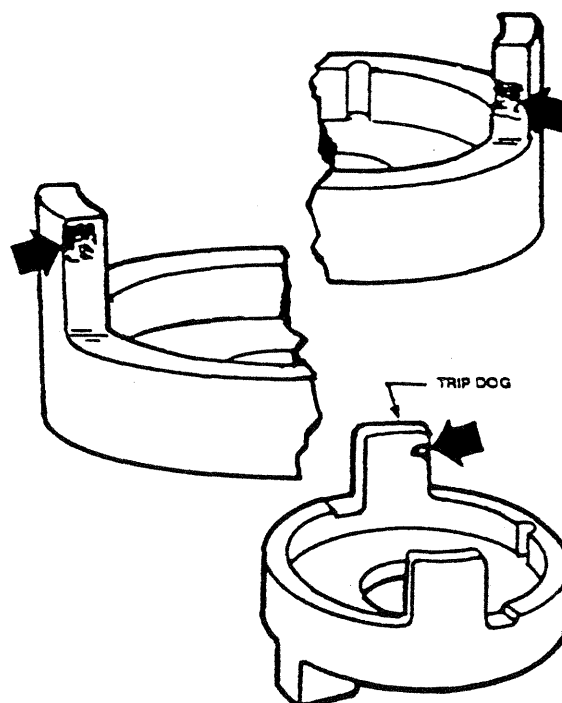

Figure 717. Points of Coupling Body Wear
(4) Inspect trip dogs of coupling body (9) for grooves worn by tail of flyweight and wear at triggering ramp and cam stop contact areas. (See Figure 717.) If either ear shows a perceptible groove or a ridge can be felt when fingernail is drawn across surface, reject body (9).